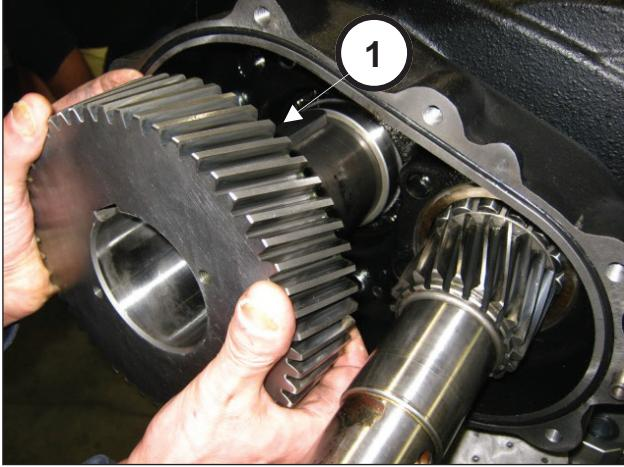

Fig. 66
Insert the ring gear on the shaft (pos. ①, Fig. 66) and move it to end stroke using an extractor hammer (pos. ①, Fig. 67).